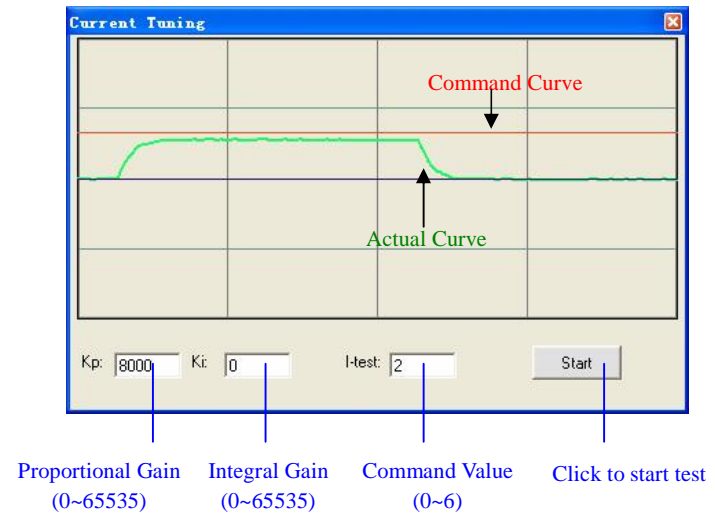

Figure 26 Current-loop tuning window (Kp=10000)
2. If the response is an over-damped response as shown in figure 26, increase Kp until get an under-damped response as figure 27.
It's very easy to see from the velocity curve (Green line) that the system is under damped. This will cause system oscillating beyond either side of its target, so it must be damped. Figure 26 shows the result after increasing  $K_d$  to 3500. In the Figure 34, the oscillation is much smaller than that of Figure 33. You can get even smaller oscillation when increasing  $K_d$  to 7000. See Figure 35.